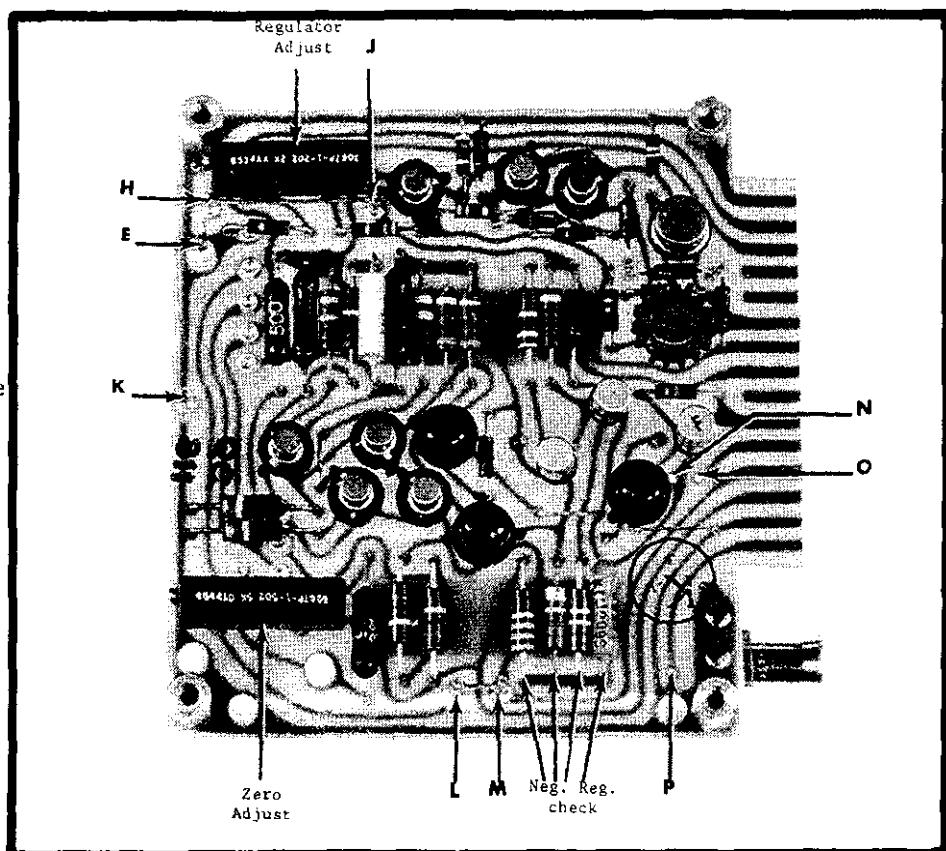

FIGURE 7. Circuit Points Within Model 300. Points are used to construct various circuits referred to in Figures 8 through 15.
d. Adjusting the Zero Adjust Potentiometer, R112 (Figure 7), sets the output to zero voltage for no input signal. There is a hole in the cover (Figure 2) enabling this adjustment to be made without removing the cover. Refer to paragraph 2-14 for other adjustments.
2. Remove any element or jumper from across E-K (Figure 7).